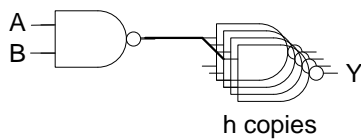

Fig. 17
17. Consider a NAND2 driving h copies of NAND2 as shown in Fig. 17. (5%)